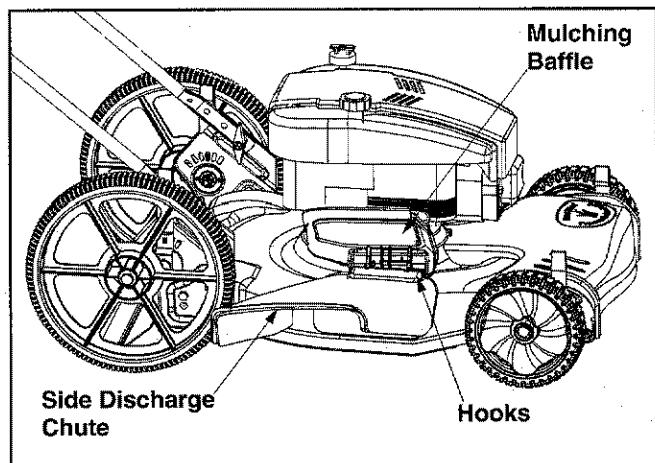

Figure 7
- Slide the hooks of the side discharge chute under the hinge pin on the mulching baffle. Make sure that the hooks snaps into place, locking the chute firmly onto the mower. See Figure 7.